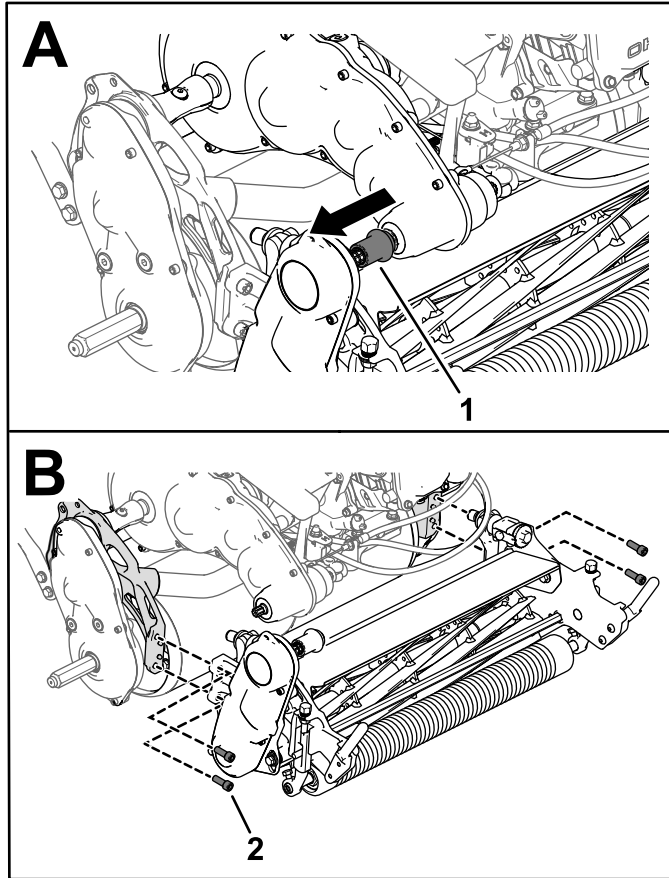

Figure 50
3. Release the cutting-unit-drive coupler from the transmission driveshaft (Figure 50).
4. Remove the socket-head screws that secure the cutting unit to the frame (Figure 50).